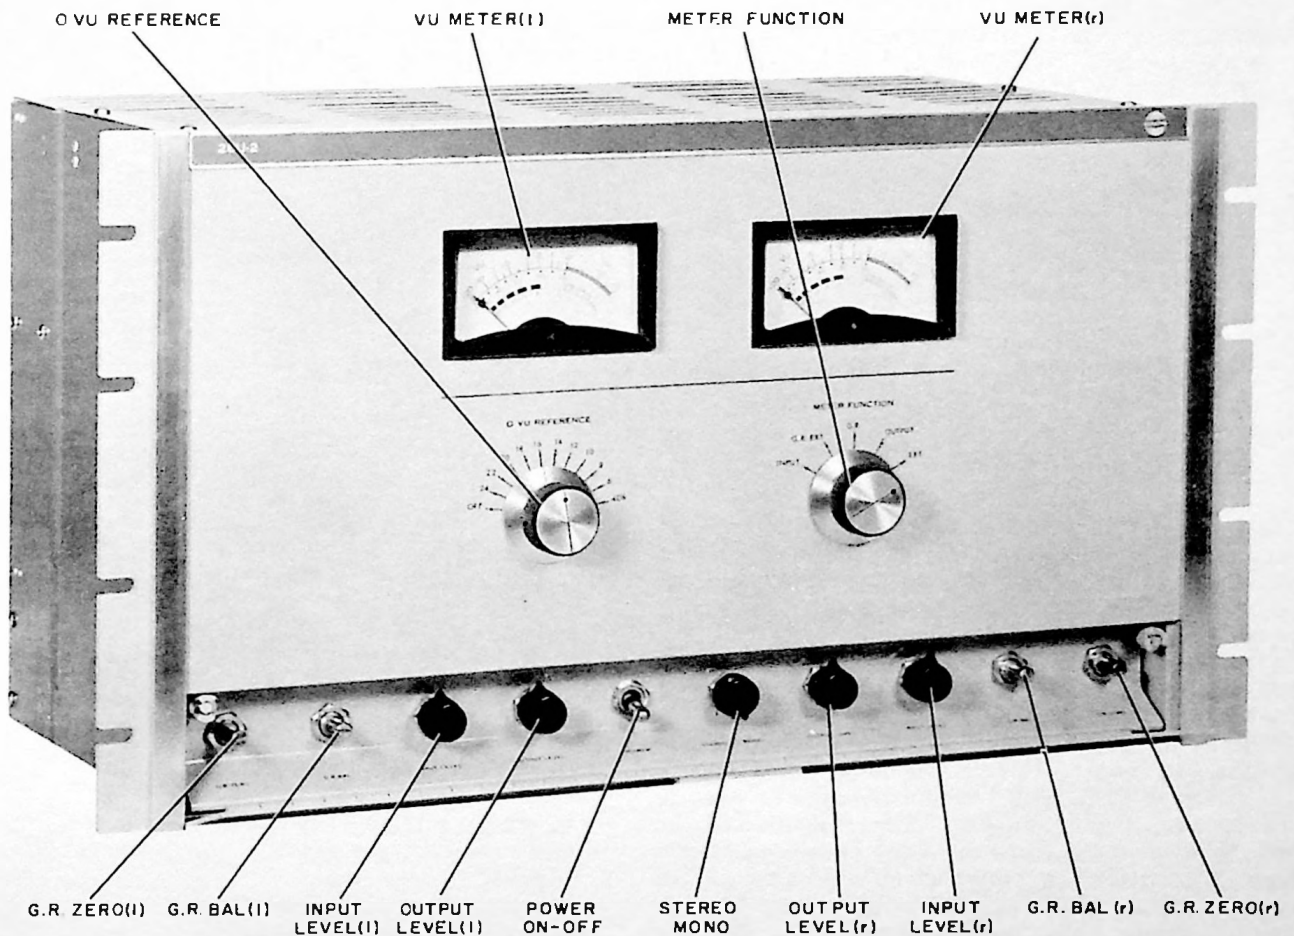

Figure 3-1. 26U-2 Stereo Peak Limiter Operation Controls, Front View
3.1.1 PANEL CONTROLS. (See figures 3-1 and 3-2.)